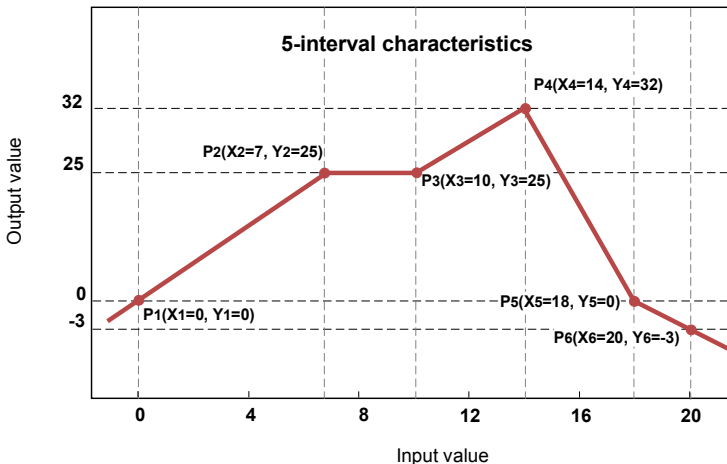

Fig. 7.34. Example of user characteristic
d) **user char.** - is defined as set of X-Y points. Number of the points is variable and may be set from 2 to 20 points which make linear segments (see **Fig. 7.34**). After choosing this option, parameter appears:
,where '**slope**' and '**offset**' are coefficients of a segment contained between two points (see Fig. 7.34), and $n = 1, 2 \dots$ is the number of the segment.
Steps to create a user characteristic consisting of 6 points (like on **Fig. 7.34**):